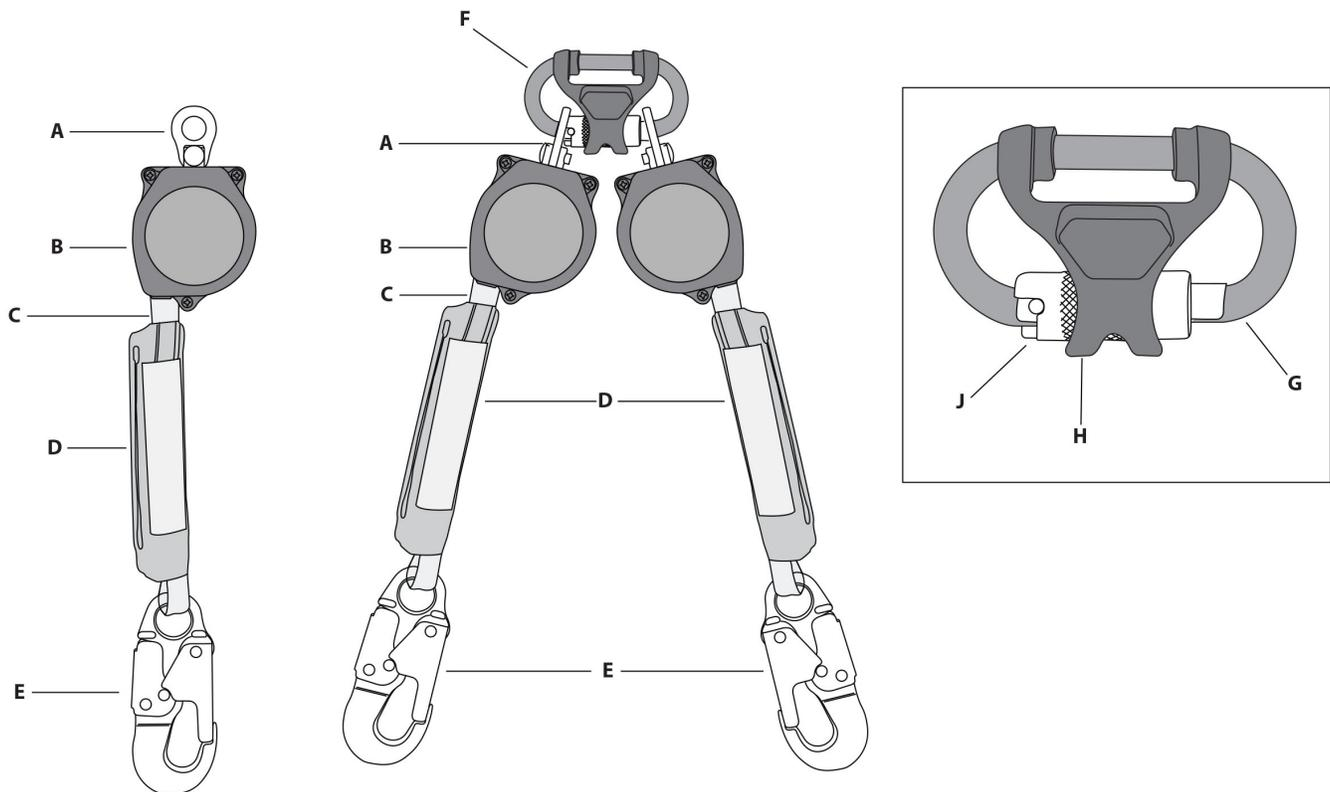

Figure 1: About DuraTech Mini SRLs
As shown in Figure 1 below, the DuraTech Mini has a nylon housing that contains a Dyneema^(R) synthetic lifeline wound onto a spring tensioned drum. The DuraTech Mini lifeline is equipped with an energy absorber and a leg-end connector. When the user is attached, the lifeline extends and retracts with the user movement, automatically maintaining taut lifeline. If a fall occurs, a centrifugal pawl system engages, stopping the lifeline payout. Then, the inline Energy Absorber (EA) will deploy, gradually slowing and arresting the fall.